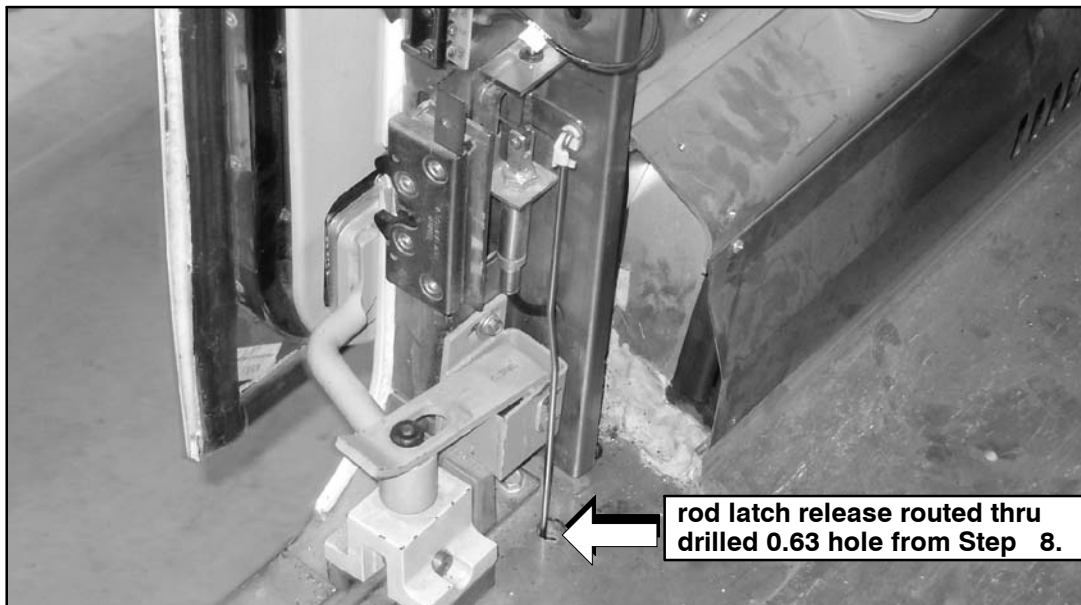

Figure 8.
12. Remove and retain the four (4) mounting screws from the existing lever assy–latch. Discard existing lever assy–latch. Using the four (4) mounting screws, install the new lever assy–latch, p/n 03–31–3257 (refer to Figure 8). Tighten screws to secure.
13. Align and route the rod latch release, p/n 03–31–3258, thru the drilled hole (refer to Figure 8). Using the clip rod, p/n 03–31–1100, install the rod latch release as shown in Figure 9 (refer to Figures 9 and 10).